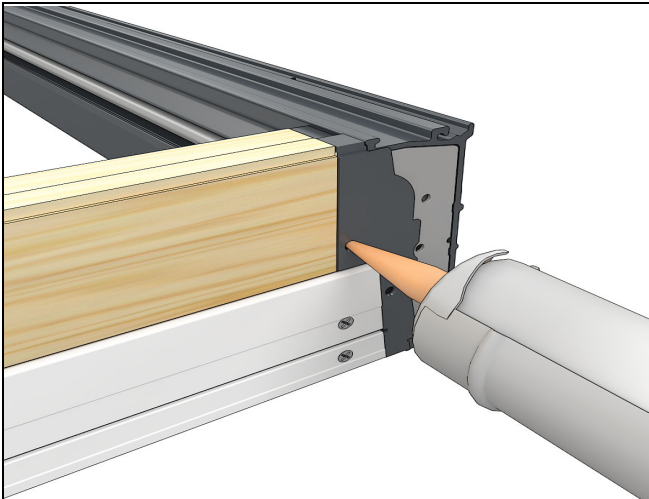
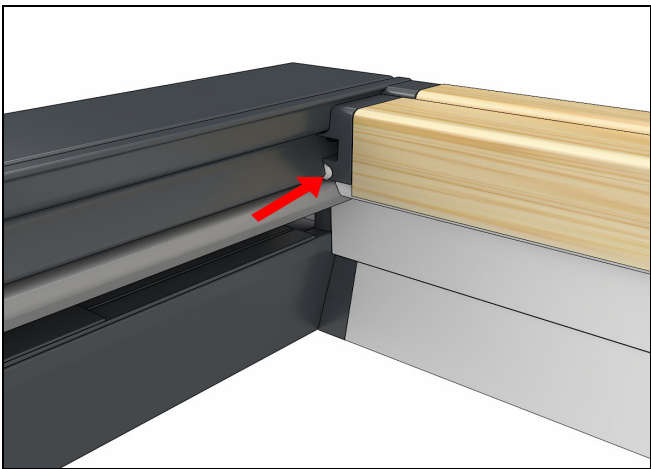
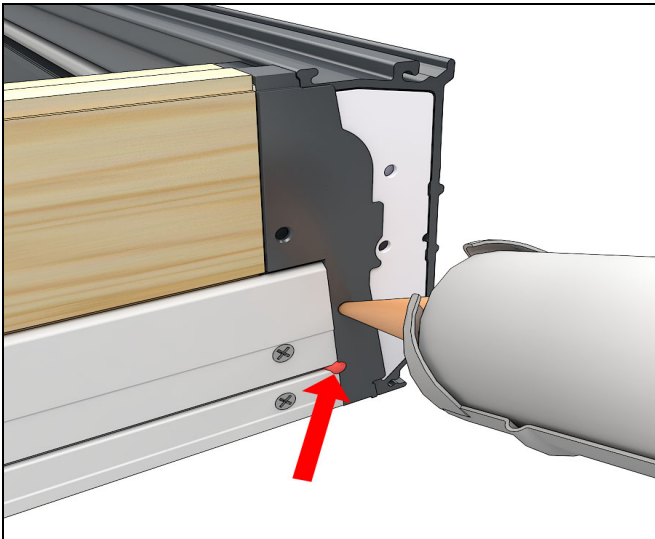

Figure 7 Inject interior hole first
Figure 8 Squeeze out location
Figure 9 Secondary injection hole with squeeze out location
6. Inject the sill until squeeze out occurs in both locations. *NOTE: Inject the interior hole first for cleanliness.* Clean up excessive silicone squeeze out as necessary. See Figure 7, Figure 8, and Figure 9.